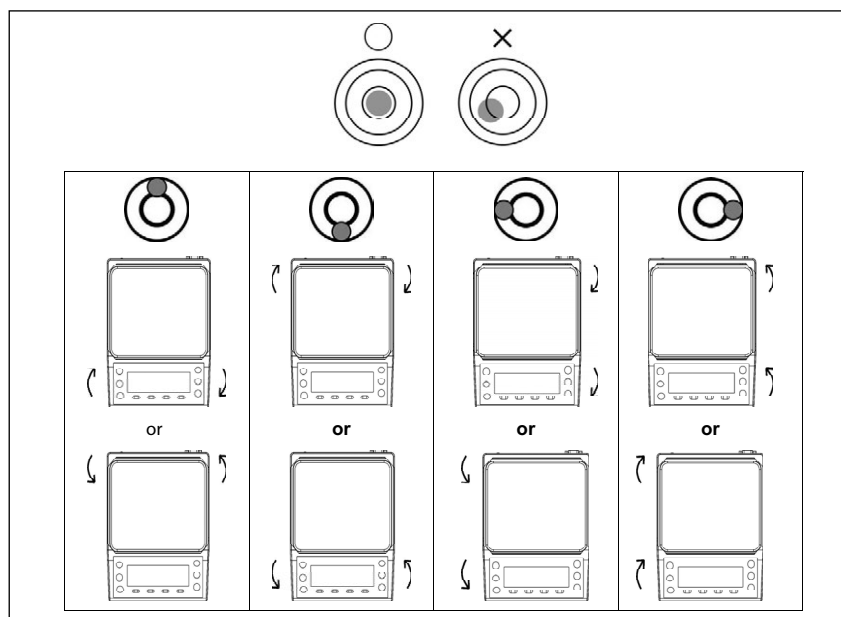

Figure 2-7. Level the Balance
2. Adjust balance feet until the bubble level is centered in the center circle. See Figure 2-7 for illustrated directions for adjusting the feet to level the balance.